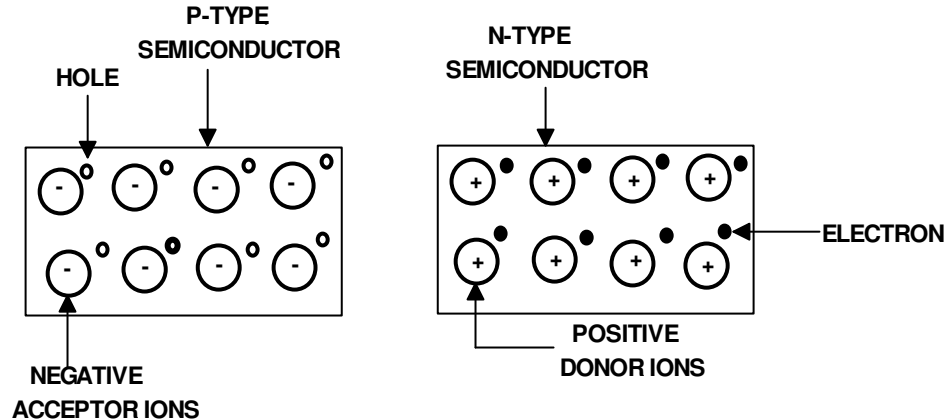

Fig. 13(a)
**Ans:** Formation of Potential Barrier in a P-N junction: The two types of extrinsic semiconductors p-type and n-type are shown in fig. 13(a). The p-type semiconductor is having negative acceptor ions and positively charged holes. Whereas, the n-type semiconductor is having positive donor ions and negatively charged electrons.